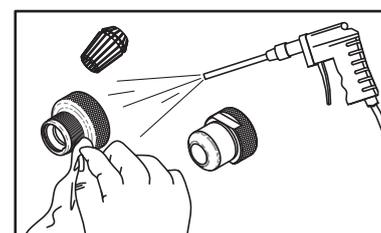
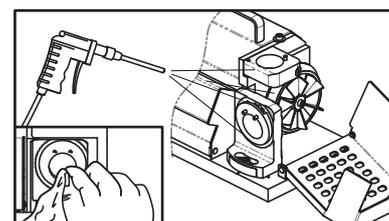

Fig. 16-4
Fig. 16-5
- ① Unplug the power cord and make sure the power is off.
- ② Disassemble the chuck set after use.
- ③ Use the air press gun to clean the scraps and dust out of all grinding shelves and all the accessories. (Fig. 16-4, Fig. 16-5)
- ④ Use clean cloth to clean each contact port and all the accessories, then put them back in order. (Fig. 16-4, Fig. 16-5)